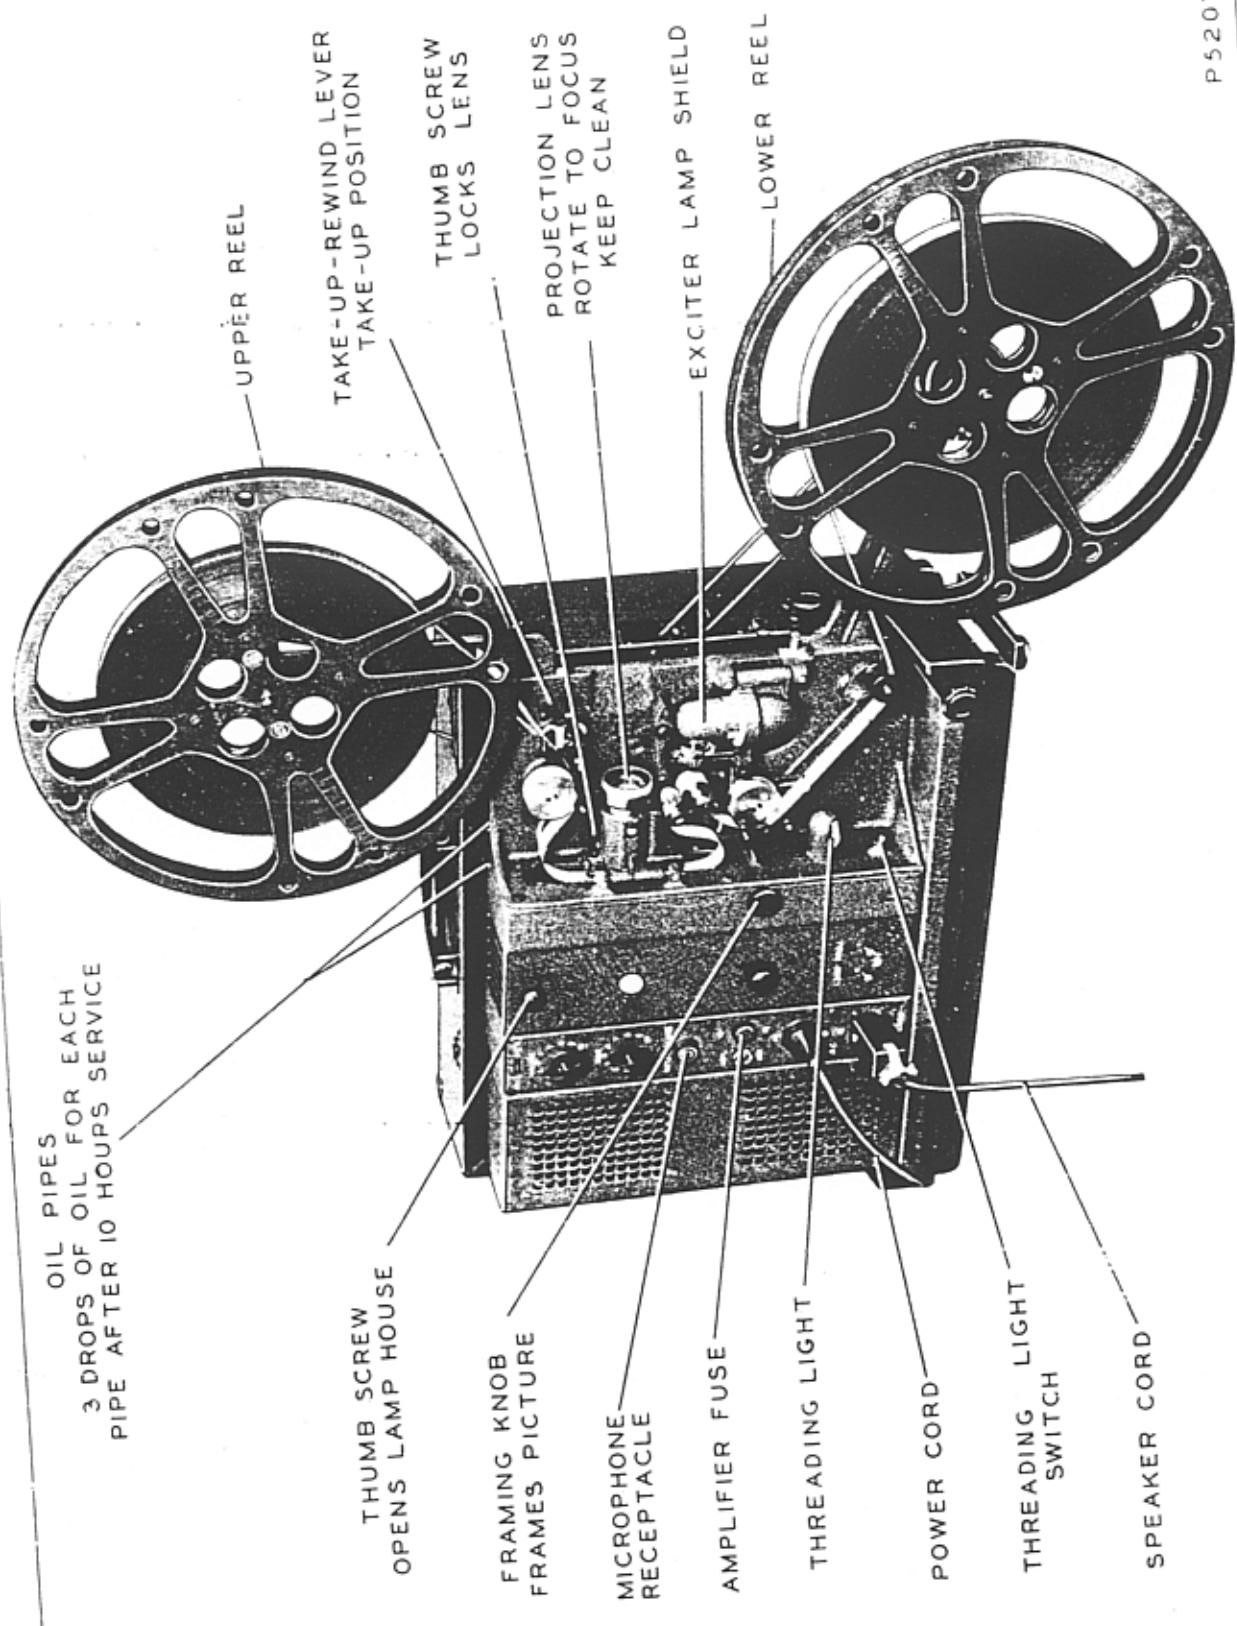
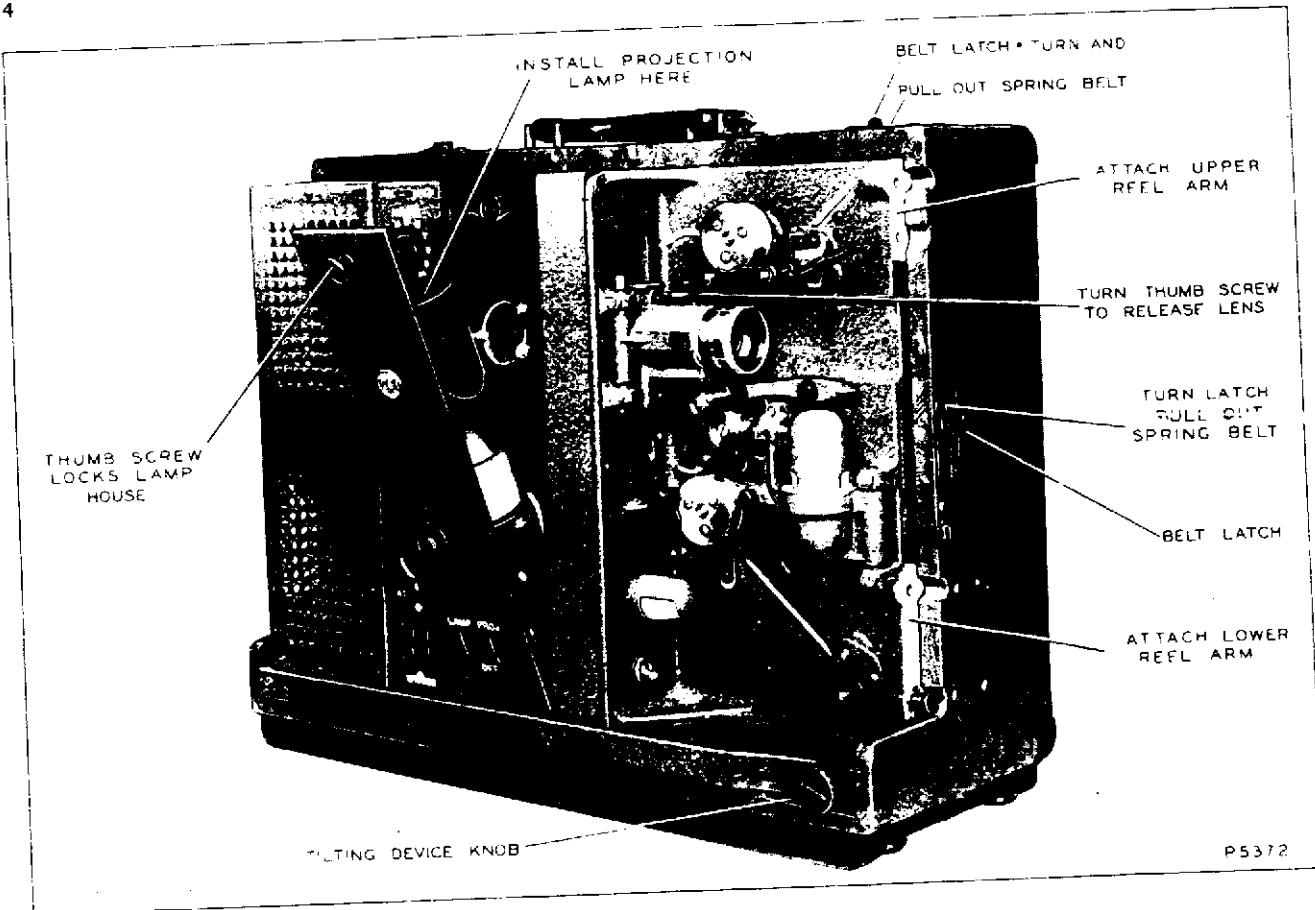

Figure 2—Projector Ready for Operation
Figure 4—Setting Up Projector
5. Open the lamp house (fig. 2) and insert the projection lamp in the socket attached to the lamp-house door (fig. 4). Line up the wide and the narrow flanges on the base of the lamp with the corresponding recesses in the socket. Press down firmly on the lamp and turn it clockwise (about 90°) until it locks in place. Avoid getting fingerprints on the clear portions of the lamp for they will burn into the glass and permanently mar the lamp. Close the lamp-house door and lock it with the thumbscrew.
6. Attach the reel arms to the frame of the projector where shown in figure 4. (They fit in only one way.) Lock them with the captive thumbscrews. Turn the latches that hold the spring belts inside the projector case, pull out the belts (fig. 4), and put them over their respective reel pulleys. Put the empty reel on the lower reel arm, moving the projector forward until the reel clears the front
c. Shift the projector sidewise until the light beam points to the screen and turn the tilting-device knob (fig. 4) until the beam centers on the screen in the vertical direction.
d. Release the lens by turning the thumbscrew (fig. 2) on top of the lens holder. Focus the projector, first by sliding the lens back and forth in its holder and then by rotating it until the edges of the lighted area on the screen are as sharp as possible. Turn off the LAMP and PROJ. switches.
c. Frame the picture, if necessary, by turning the knob marked FRAME (fig. 2).
13. Just before putting the projector into operation for the first time, or after it has stood idle for a period of 30 days or more, put two or three drops of the MI-1331 oil supplied with the machine into each of the two oil pipes terminating on top of the projector frame (fig. 2). When operating the projector continually, put this amount of oil into each pipe every 10 hours of operation, or more frequently if inspection indicates the need of lubrication. Do not use too much oil, for the excess may reach the optical or the film-carrying surfaces of the machine, where it would cause picture blurring and sound distortion.
(7) In a similar manner clean the reflector mounted opposite the condenser lens.
(8) Take out and clean the projection lamp. Leave no fingerprints on the clear areas of the lamp.
(9) Remove the projection lens from its holder and brush off any dust with a camel's-hair brush. If necessary to clean the lens more thoroughly, follow the directions given in b(6) above. Be especially careful **not to leave any dust or lint on the lens surfaces**. Replace the lens in its holder and secure it with the thumbscrew (fig. 2).
(10) Open the optical bracket and swing it out of the way. Remove the exciter-lamp cover. With a camel's-hair brush remove all dust and lint from the photocell, the optical mirror, and the two small lenses on the optical unit. Be very careful with the mirror, for it may be dislodged by rough handling.
(11) Remove the exciter lamp and clean it in the same manner as the projection lamp. Put the cover on the exciter lamp and fasten the sound optical bracket in its original place.